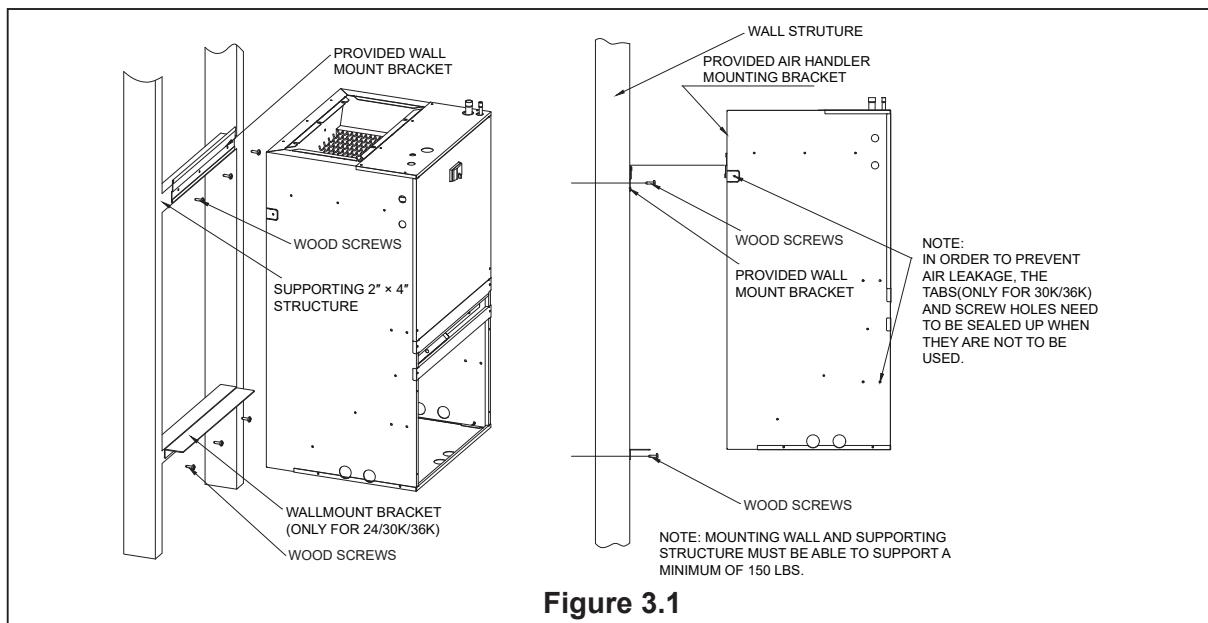

Figure 3.1
The air handler comes standard with an upper and lower wall mount bracket. Reference Figure 3.1 for more detail.
3. Lift the air handler above the wall mounting bracket and attach the unit to the installed bracket. Reference Figure 3.1.
4. Install the additional bottom plate for extra support for this type mounting (see Figure 3.1). *Note: The additional plate is shipped in the bottom of the shipping carton (for 24/30/36k unit).*